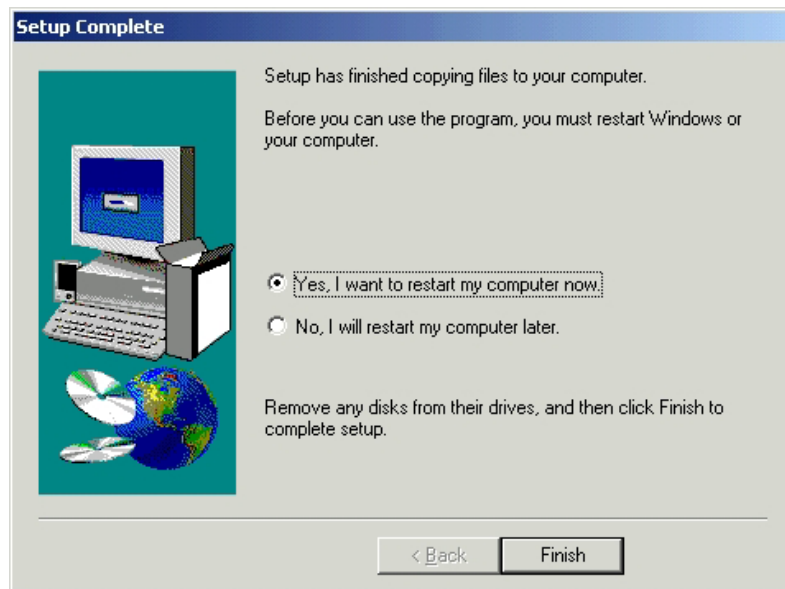

Fig 3.1.5 – Be sure to reboot
7. After the install completes please be sure to reboot the computer (see fig 3.1.5).
7. After the install completes the ProfessionalPlus computer must be rebooted (see fig 3.1.5) and downloaded.